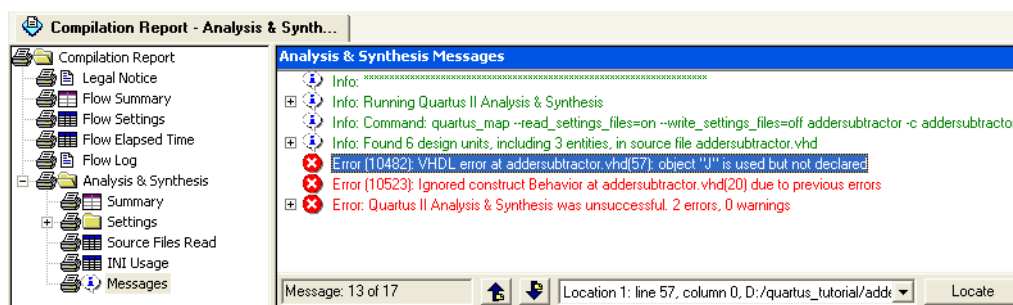

Figure 26: Figure 26. Error messages.
2. Click on Analysis & Synthesis > Messages in this window to have all messages displayed as shown in Figure 26.